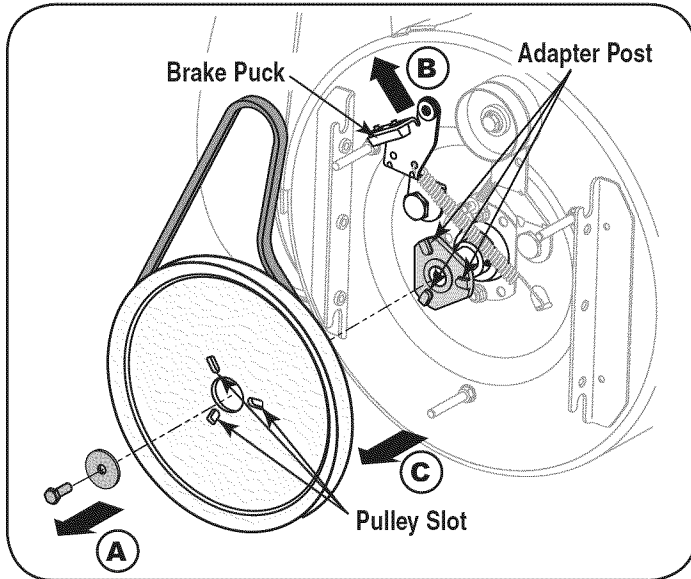

Figure 35
- Block the impeller with a piece of wood to prevent it from spinning and use a 1/2" wrench to remove the hex screw and flat washer from the center of the pulley on the auger housing. See A in Figure 35.
- Lift the brake bracket assembly out of the pulley groove (B in Figure 35) and slide the pulley assembly off the posts of the auger pulley adapter (C) to remove the old belt.
- Turn the pulley as necessary to align its three slots approximately with the posts of the pulley adapter, then pivot the brake bracket assembly away from the pulley groove. While aligning the pulley slots and adapter posts, push the auger pulley fully onto the adapter. Refer to Figure 35. Ensure the brake puck of the brake bracket assembly aligns and is fully seated in the pulley groove.